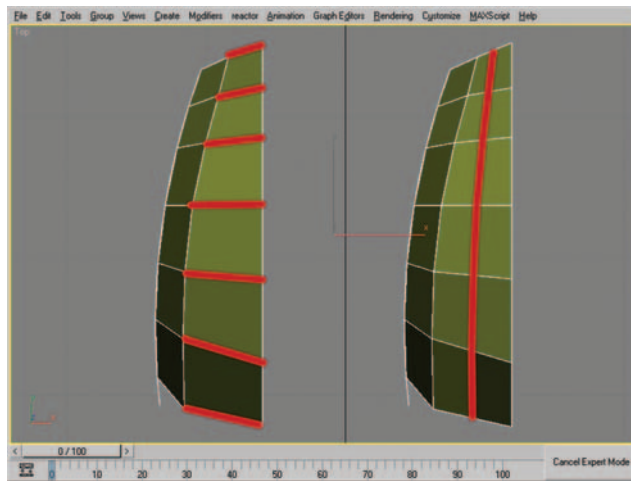

Figure 8.19 Edge selection and mesh after using *Connect* on the ring selection.
22. Still in the top viewport, select the edge ring shown in Figure 8.19 (left) and use Connect to create a new row of edges (Figure 8.19, right).